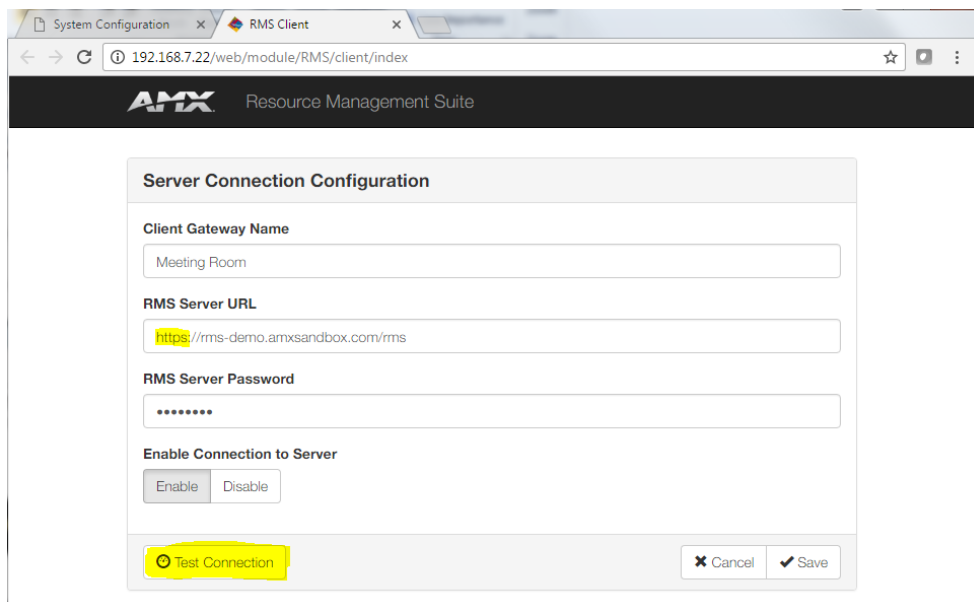

FIG. 482 NX Master -Server Connection Configuration
3. Configure the NX Master to connect to the RMS server using HTTPS and click the **Test Connection** button (FIG. 482):